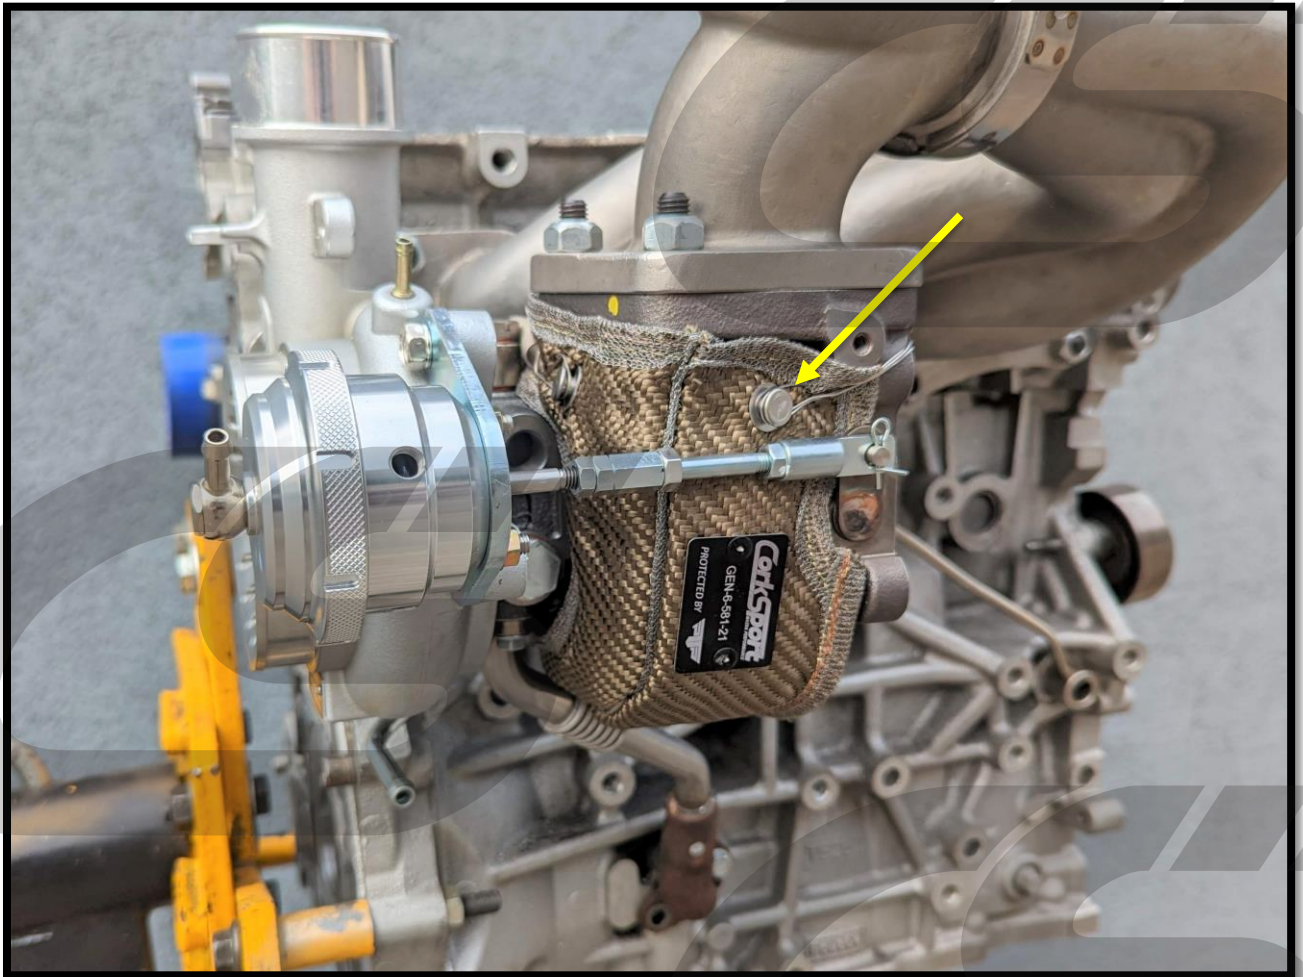

Figure 2j
- j) After the spring and wire have been attached to their respective places, the blanket may need to be adjusted to achieve desired fitment as seen in **Figure 2j**.